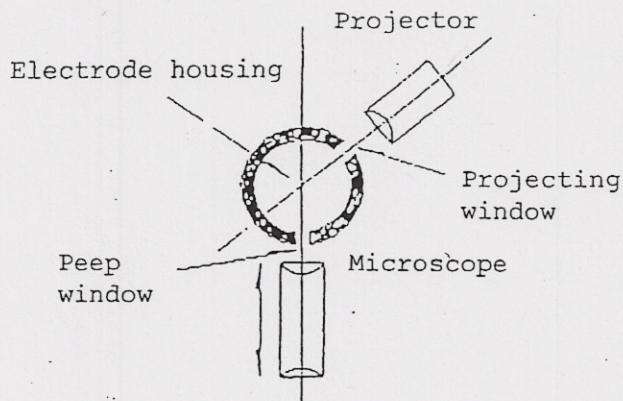

Fig. 1
- (1) Set the electrode housing as shown in Fig. 1.